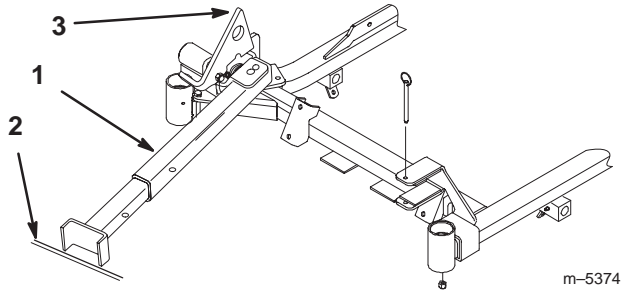

Figure 8
6. Set foot of stand on the ground and rest latch on pivot tab (Fig. 8).
Note: For best results, place foot of stand into seams in sidewalks or into turf (Fig. 8).